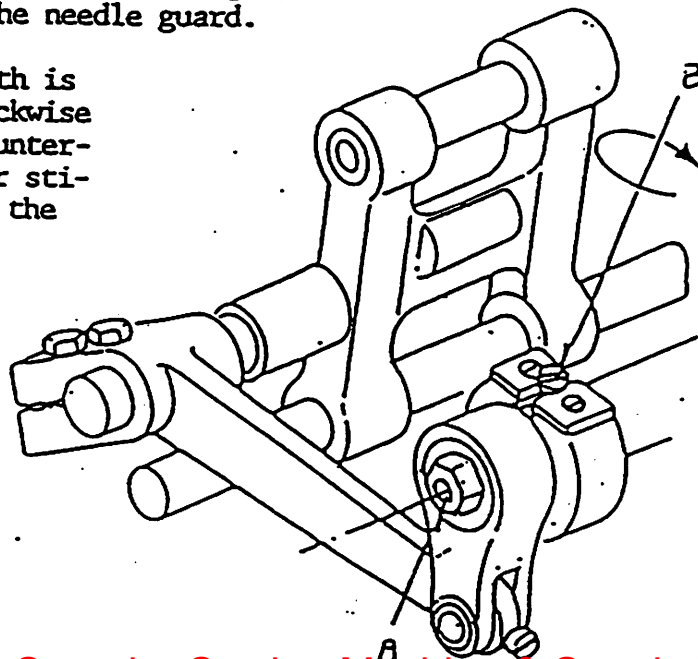

Fig. 10
12) Changing feed length (Fig. 10)